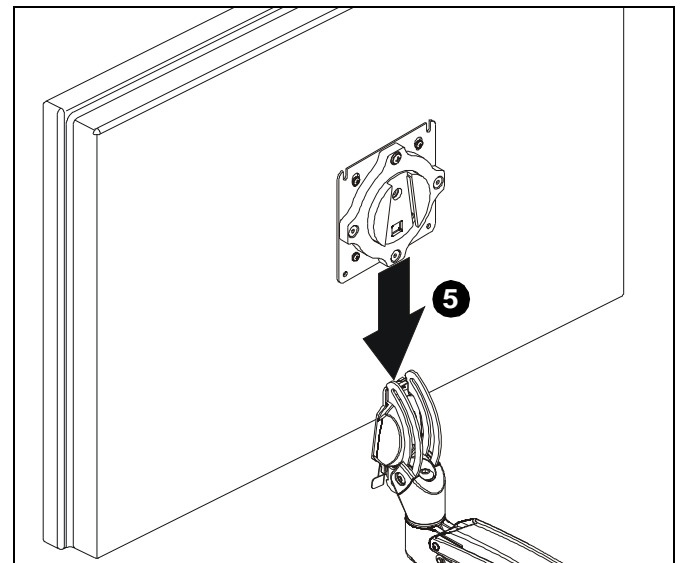

Figure 6
- Position display with faceplate attached above mount. (See Figure 6)
- Slide faceplate onto mounting head until quick release tab clicks into place. (See Figure 6)